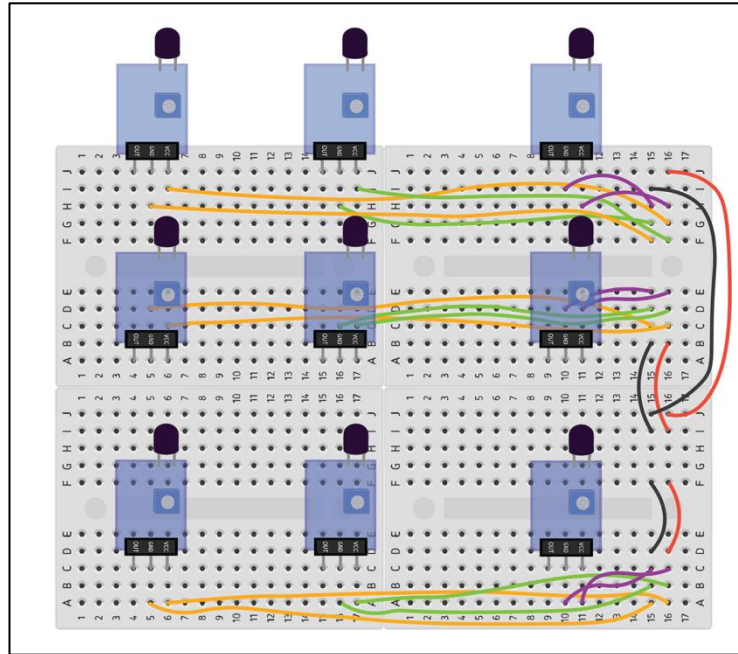

Figure 3: Placement of photodiodes and local wiring on breadboard.
- c. Place the photodiodes on the mini breadboards as shown in the figure below (**Fig. 3**). It is important to respect the exact positioning as this ensures the photodiodes properly fit into the 3D printed case. **For the middle row, it may be easier to place the wiring first and then the photodiodes after.*